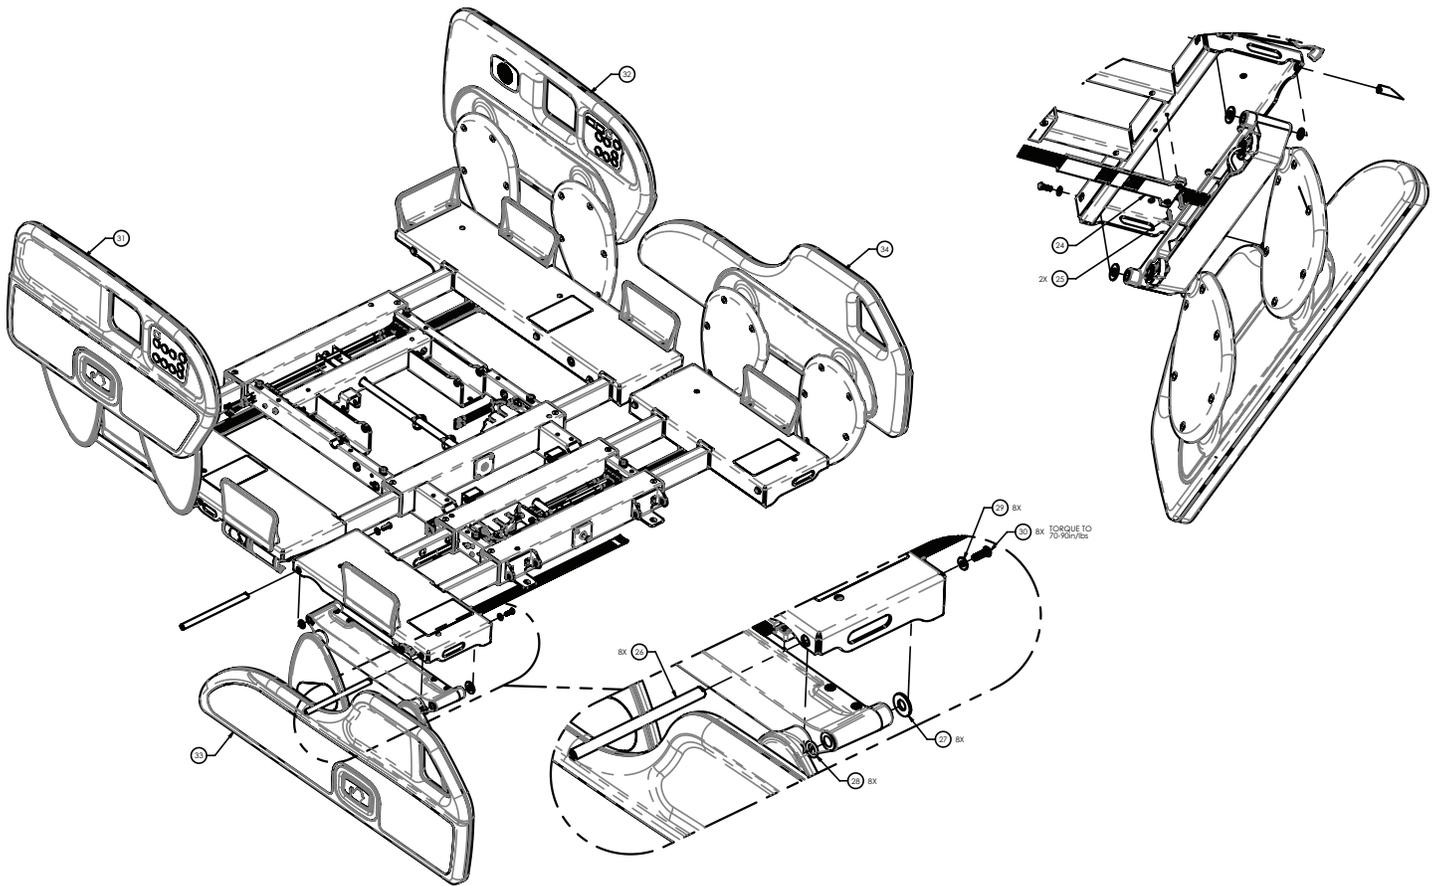

Figure 39 – Siderail replacement, head end
10. Unplug the two siderail cables from the junction board assembly (51).
11. Using a T27 Torx driver, remove the screw (30) and washer (29) that secures the guide rod to the litter (Figure 39).